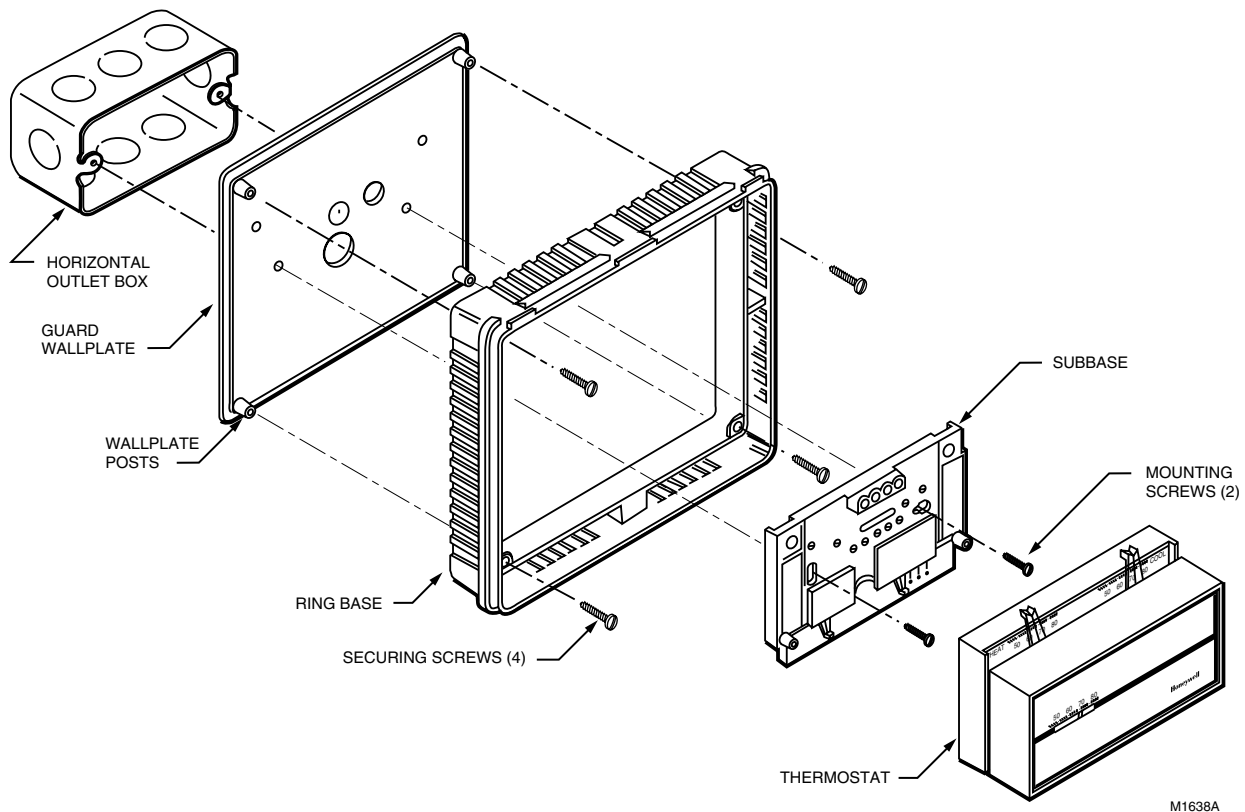

Fig. 12. Mount guard wallplate with ring base and thermostat on junction box (front-wired thermostat subbase shown).
Junction Box Mounting (Fig. 12)
- ❶ Place the thermostat subbase (or wallplate) on the wallplate template and mark the mounting holes.
- ❷ Locate the mounting holes on the guard wallplate using the template as a guide.
- ❸ Drill the required 5/32 in. mounting holes in the guard wallplate.
- ❹ Secure the guard wallplate to the ring base using the screws provided.
- ❺ Place the guard wallplate (with smooth side facing the ring base) on the back of the ring base.
- ❻ Insert the securing screws through the holes on the front of the ring base and into the posts on the wallplate. See Fig. 12.
- ❼ Tighten the screws securely.